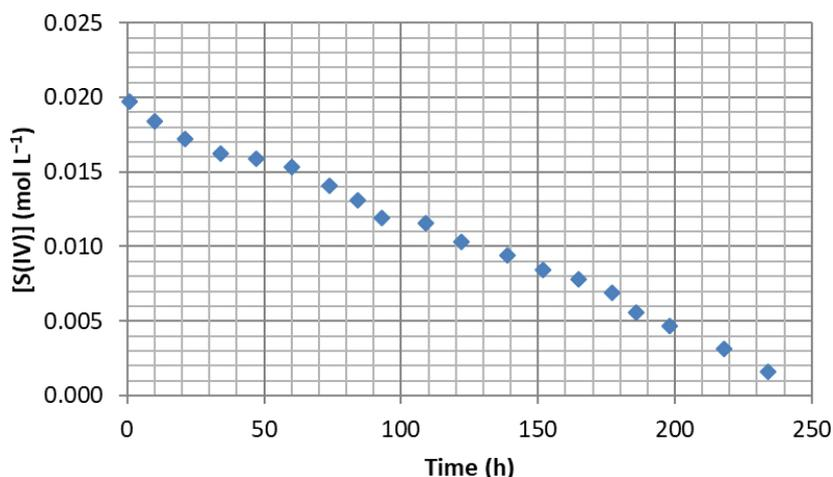

Figure 1:  $[\text{S(IV)}]$  as a function of time for the fructose - glycine - sodium metabisulphite S(IV) reaction
The first experiment (A) was carried out by adding  $n_{\text{Fru},A,0} = 1$  mol of fructose,  $n_{\text{Gly},A,0} = 0.5$  mol of glycine and  $n_{\text{S(IV)},A,0} = 0.02$  mol of S(IV) at the same time to  $1 \text{ dm}^3$  sodium acetate/acetic acid buffer. Every 15 hours (roughly), an aliquot of  $1 \text{ cm}^3$  was extracted from the reactive medium, put in a cell of  $l = 1 \text{ cm}$  and a drop of Ellman's reagent was added. The absorbance was measured after stirring. Results obtained from this experiment are shown in figure 1.
**18.4** Choose a wavelength to measure the absorbance of the aliquots of experiment (A).